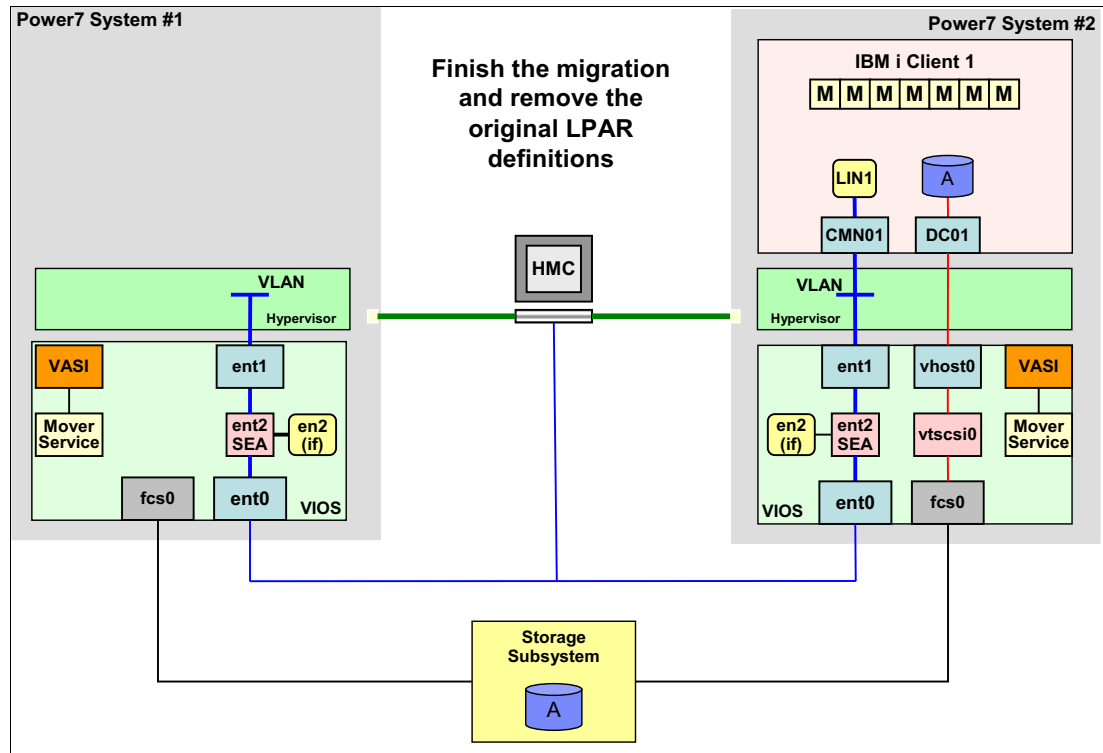

Figure 5-6 Live Partition Mobility, finished status
6. After the memory pages migration is finished, the original LPAR definition on System #1 is deleted with the virtual I/O definitions in the Virtual I/O Server, as shown in Figure 5-6. The target system resumes and user transactions start to run again.